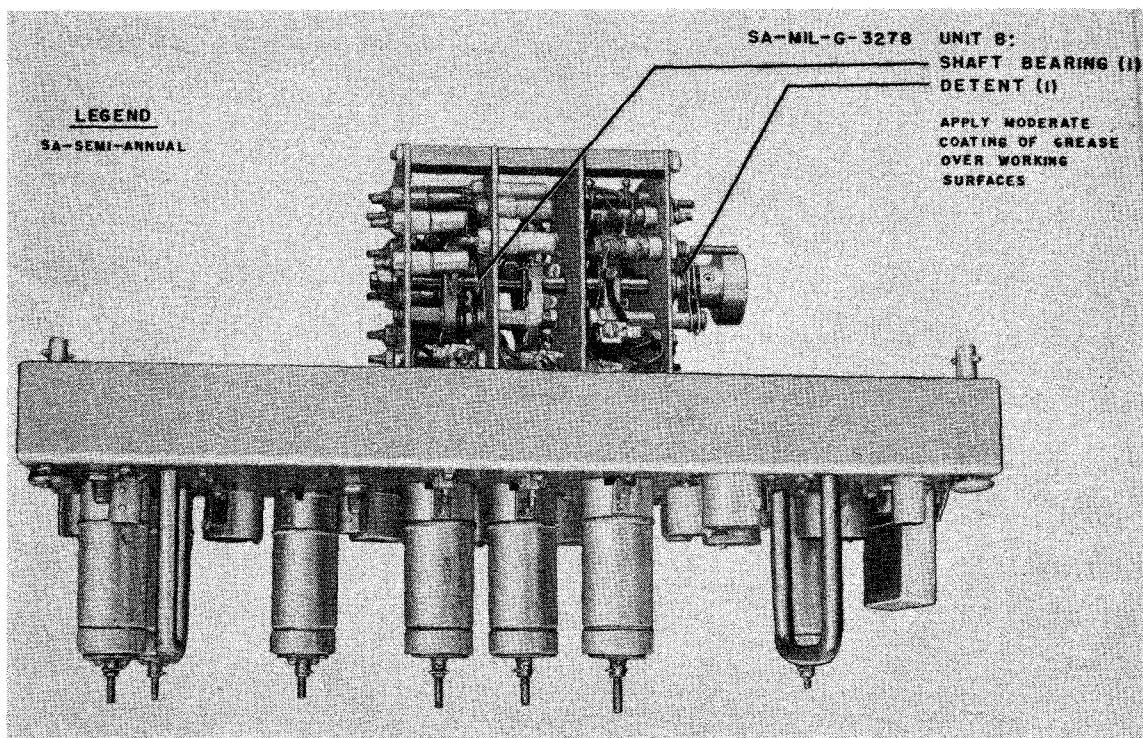

Figure 6-20. RFO, Unit 8 (Z-2330), Lubrication
(c) UNIT 8.—A partially disassembled unit 8 is shown in figure 6-20 to direct attention to the lubrication points.
- Step 2. Place the red indicator stud on unit 8 detent at 0. (See figure 6-20 for location of unit 8 detent.)
- (b) Figure 6-20